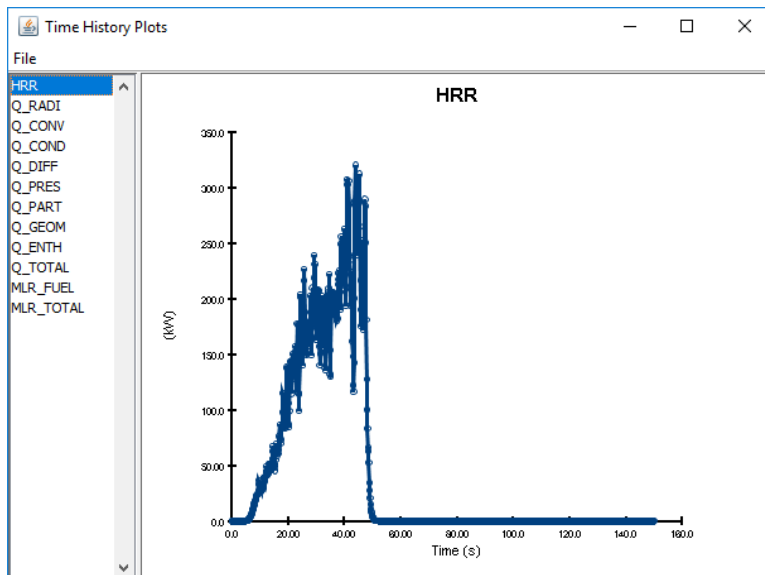

Figure 12. Heat release rate.
2. Plot the heat release rate as a function of time, Figure 12. This simulation included sprinkler activation that extinguished the fire.